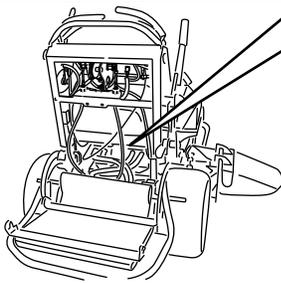

Figure 25
3. Open the by-pass valve on both pumps by turning them counter clockwise 1 to 2 turns. This allows hydraulic fluid to by-pass the pumps and the wheels to turn (Figure 25).